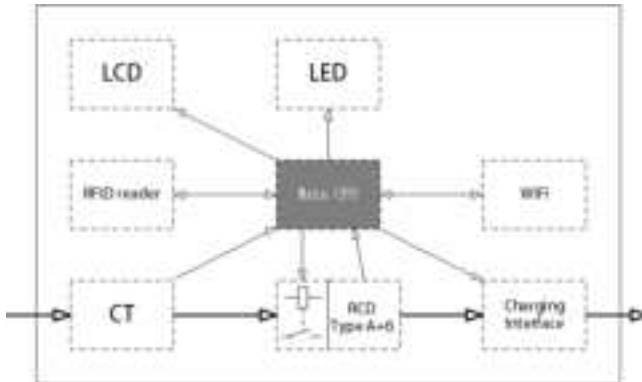

Fig. 4-2 Block diagram of RASONIC
- The block diagram of RASONIC AC EV charging station is shown as Fig. 4-2.